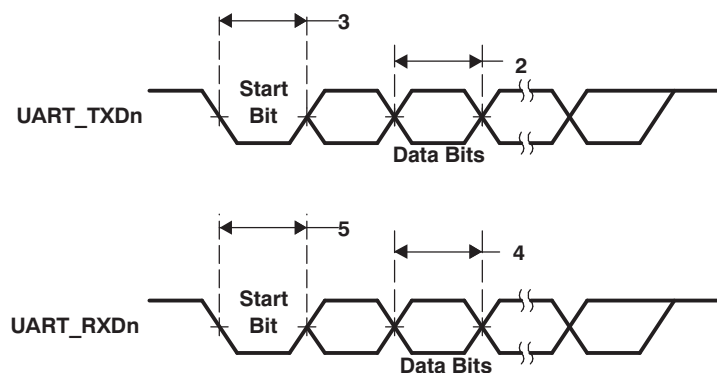

Figure 7-42. UART Transmit/Receive Timing
Table 7-59. Timing Requirements for UARTx Receive (see Figure 7-42)(1)
Table 7-60. Switching Characteristics Over Recommended Operating Conditions for UARTx Transmit (see Figure 7-42)(1)